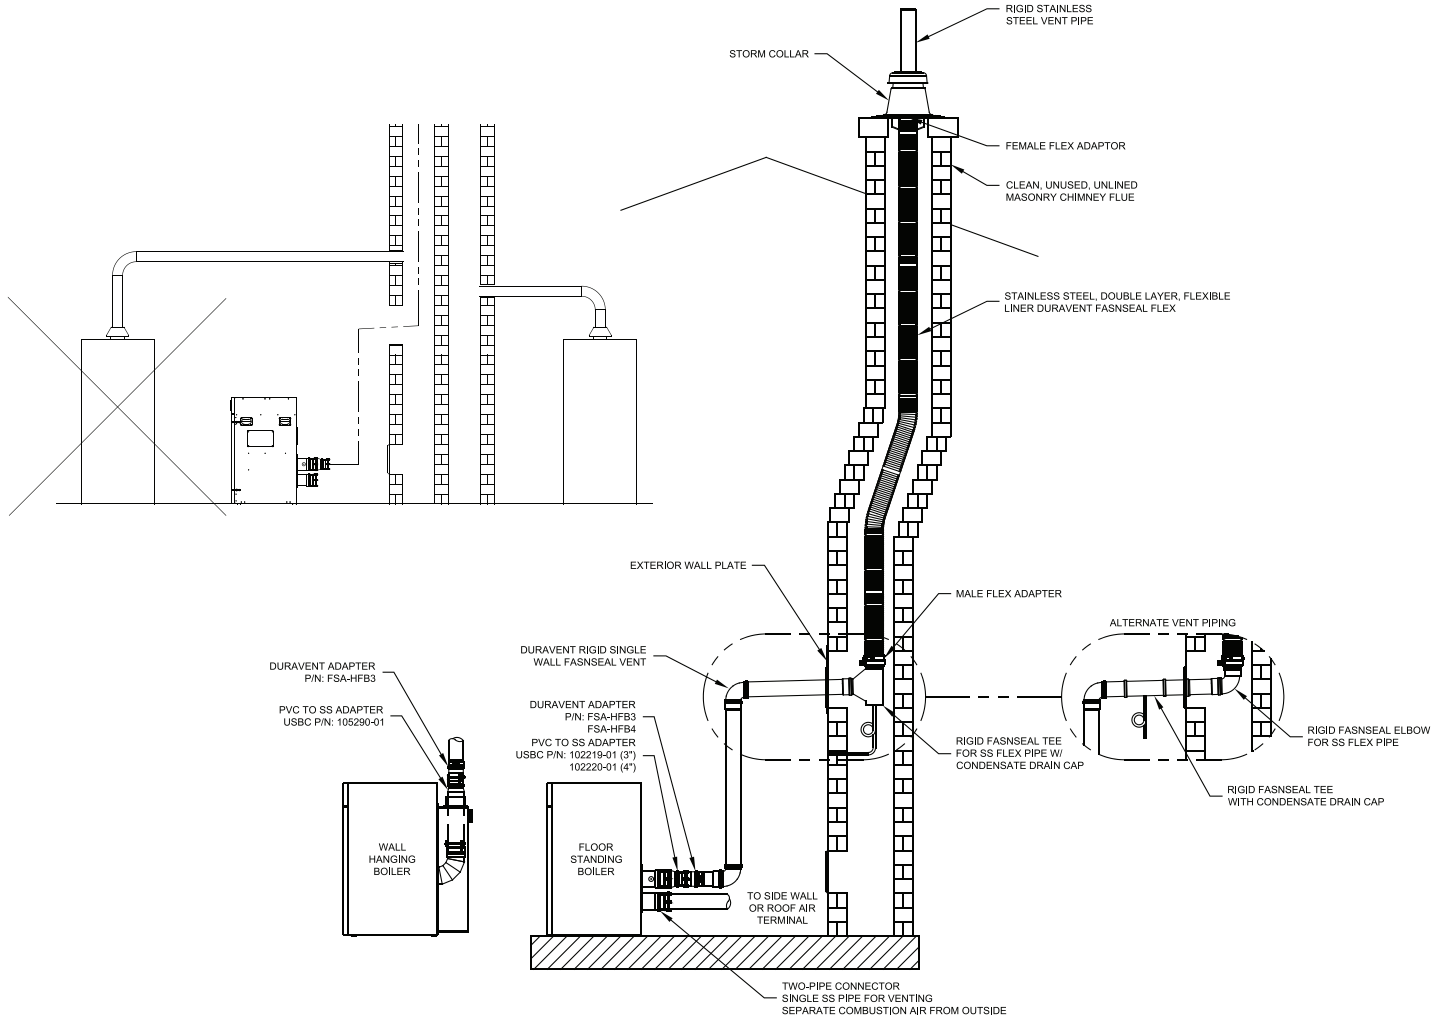

Figure 17 : Flexible Stainless Steel Vent in Masonry Chimney with Separate Combustion Air Intake
- b. Refer to Figure 17 for details of chimney chase installation.